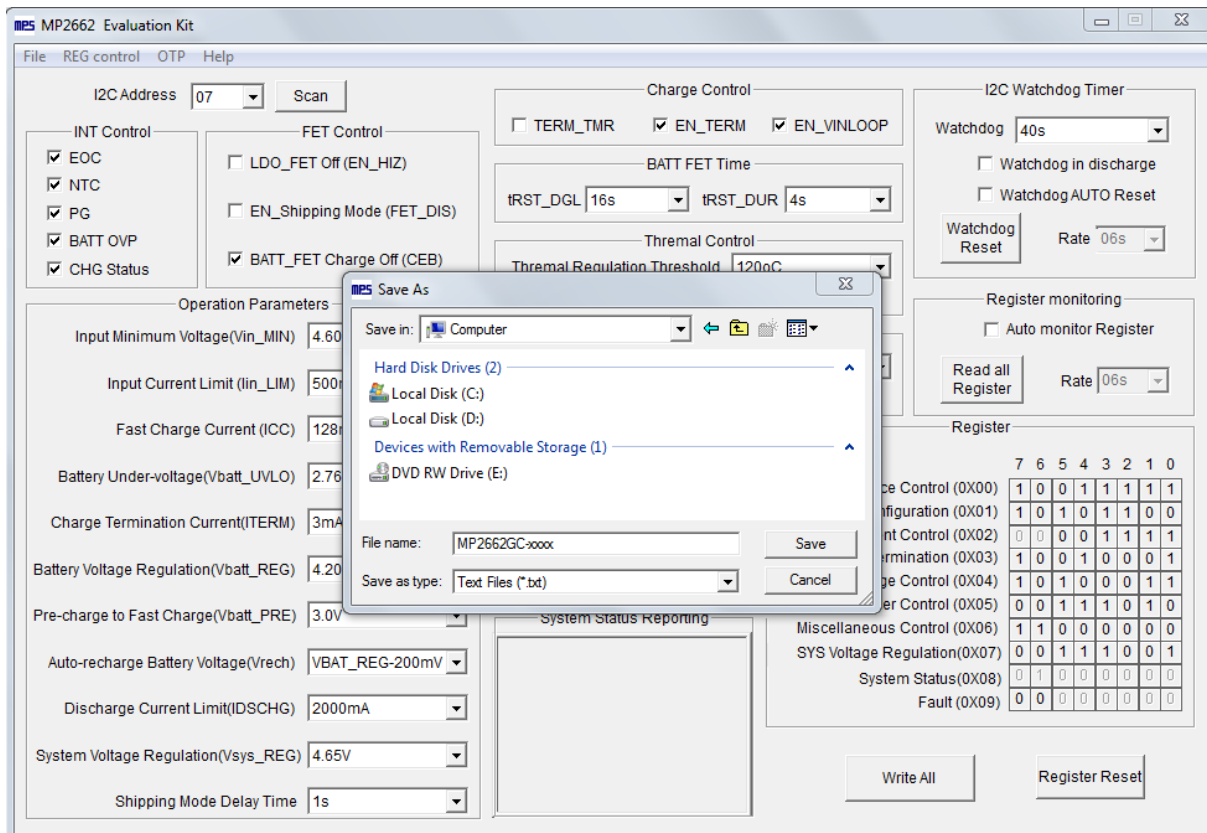

Figure 11: Saving OTP Configurations
- Find a location for the exported file, then click “Save”. The configurations should be saved in a .txt file (see Figure 11).